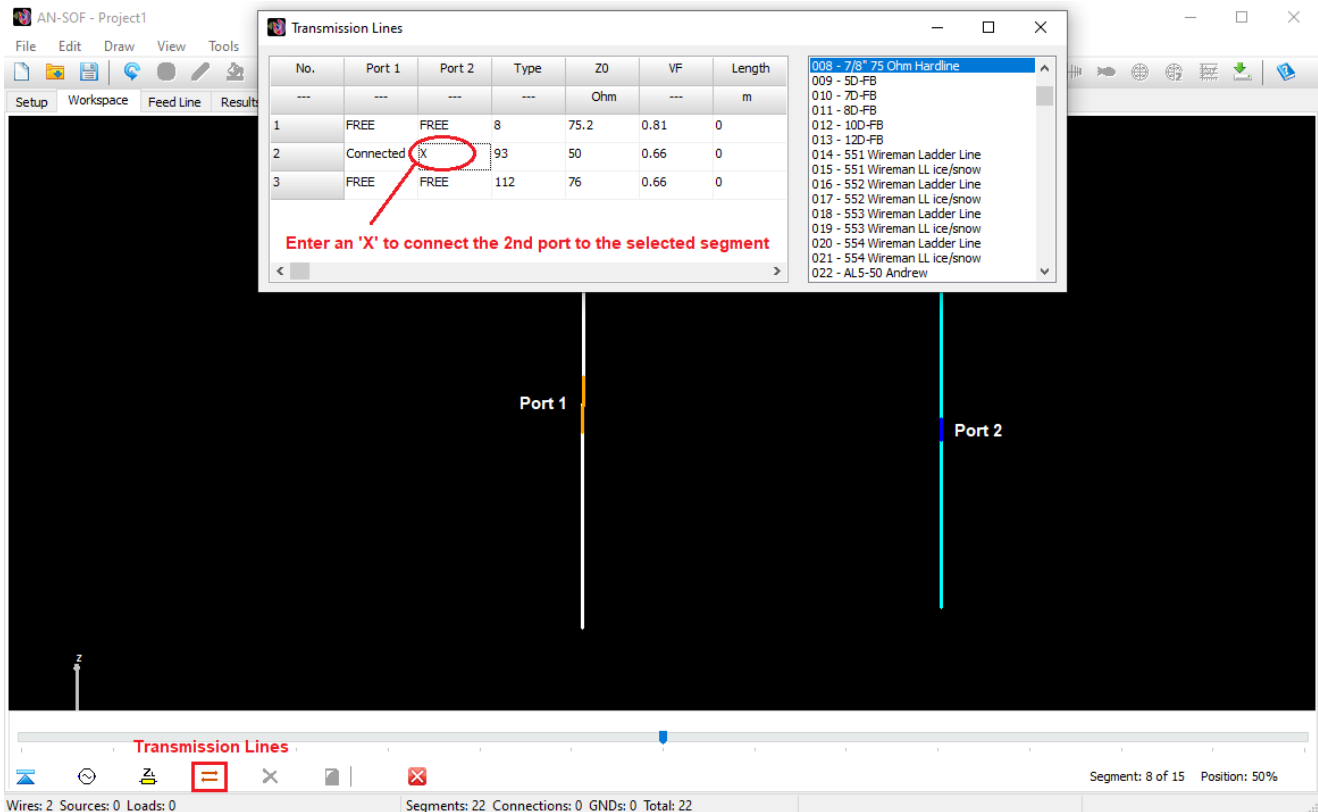
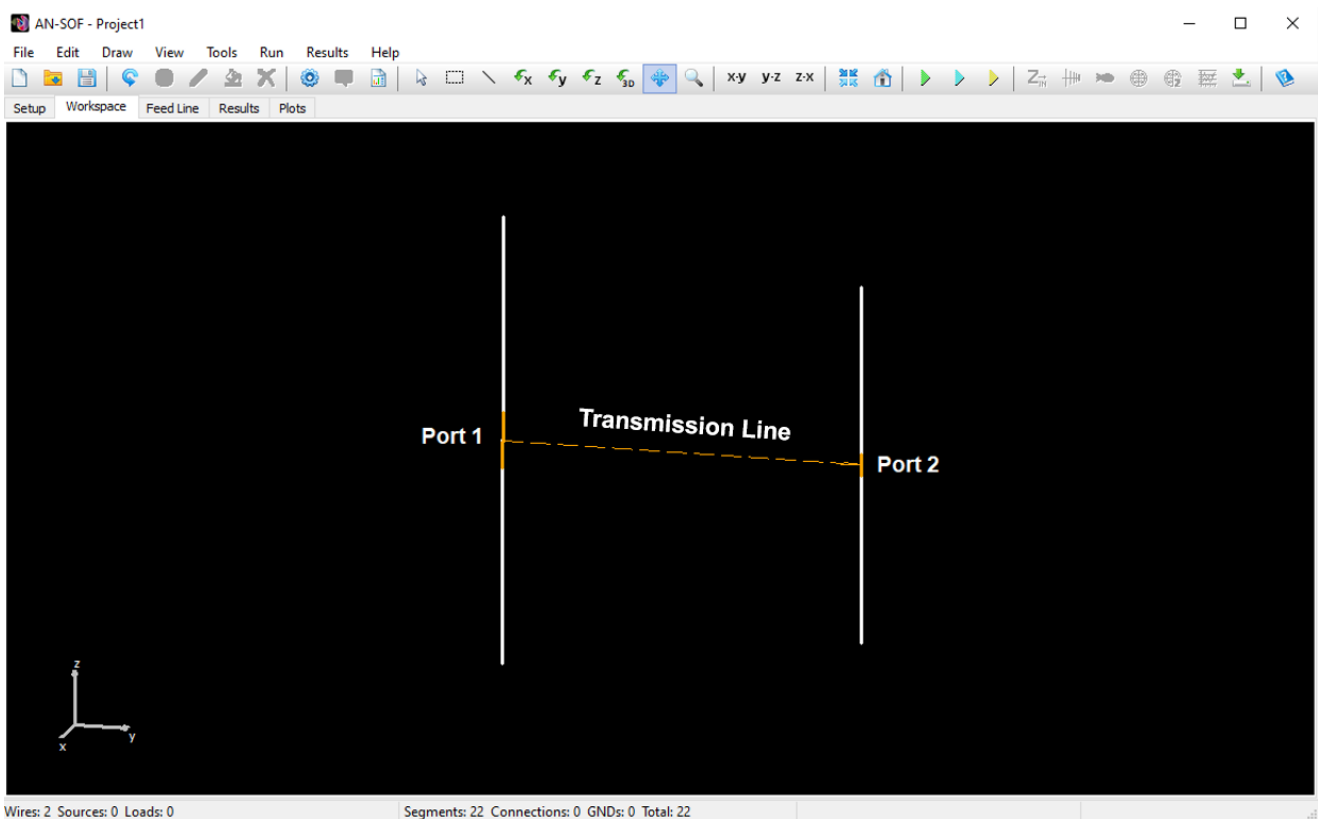

Fig. 3: Select the second segment and enter an 'X' in the ports that you want to connect there.
Fig. 4: Transmission line in the workspace, connecting two segments located on different wires.
If you enlarge or maximize the Transmission Lines window, you will be able to see the columns corresponding to the loss model parameters and shunt admittances, Figs. 4 and 5. Initially, this window only displays cells up to the ‘Length’ column so that the user does not have to worry about the loss parameter values since these are automatically loaded when selecting a line type from the list. Adding an attenuation curve when modeling a cable that is not on the list is explained in \*\*Adding a Custom Lossy Line\*\*.
Fig. 4: Enlarge the Transmission Lines window to view the loss model parameters and shunt admittances. In this example, the K0, K1, K2, and K3 columns of the RLGC model are displayed since a line has been chosen whose attenuation curve is adjusted to this model.
5. Select the second wire and repeat steps 1-4 to connect the second port of the transmission line to another segment, Fig. 3. The transmission lines with both ports connected will be graphically displayed as shown in Fig. 4.
The transmission lines that have both ports connected to segments are displayed as **straight dashed lines in orange color** in the workspace, Fig. 4. An **arrow** will indicate the direction of the line, which goes **from port 1 to 2**. Since the length of a line is another parameter that is entered, such as its characteristic impedance and velocity factor, the length of the line in the workspace may not represent the configured or “real” length of the line.